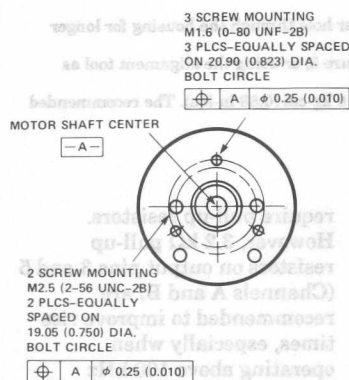
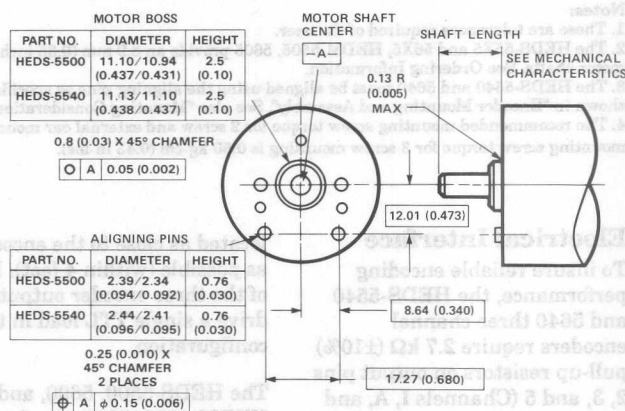

Figure 2. Mounting Holes.
Figure 3. Optional Mounting Aids.
- The HEDS-5540 and 5640 must be aligned using the aligning pins as specified in Figure 3, or using the alignment tool as shown in "Encoder Mounting and Assembly". See also "Mounting Considerations."
The HEDS-5540 and 5640 three channel encoders and the HEDM Series high resolution encoders must be aligned using the aligning pins as specified in Figure 3, or using the HEDS-8910 Alignment Tool as shown in Encoder Mounting and Assembly.
screw mounting option as shown in Figure 2. The optional aligning pins shown in Figure 3 can be used with either mounting option.